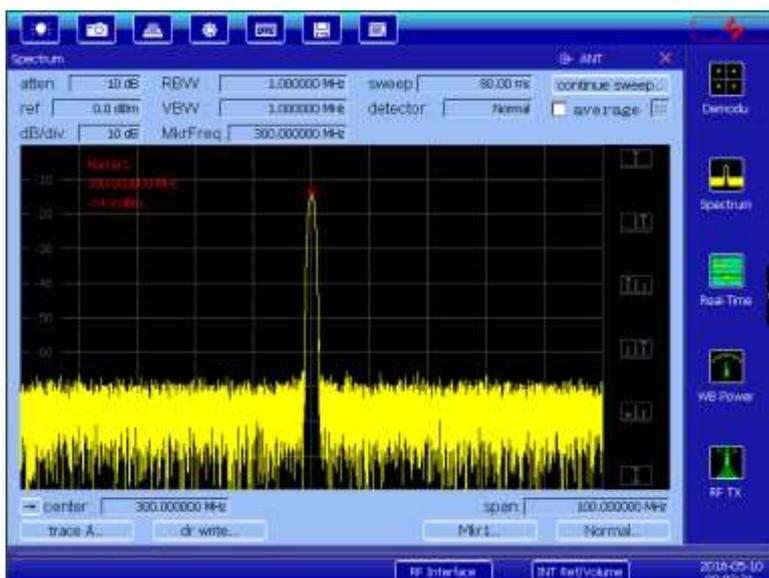

Fig. 4-10 Spectrum measuring interface
- 5) Click `[[center]]` and `[[sweep]]` for relevant setting on the lower part of the screen as per the input signal. After that, the spectrum of the signal under test can be seen, as shown in Fig. 4-10.
In the Spectrum mode, the power of specific frequency point can be measured easily via the marker. 4945B/C provides a shortcut option to use the marker for measurement, as shown in Fig. 4-11, through which such values as the peak, secondary peak, left peak and right peak can be measured easily. Meanwhile, the instrument can support multiple-marker measurement, and Markers 1-4 can be selected from the function menu in the left of the interface. The measuring case shown in Fig. 4-10 selects Marker 1 for peak measurement.